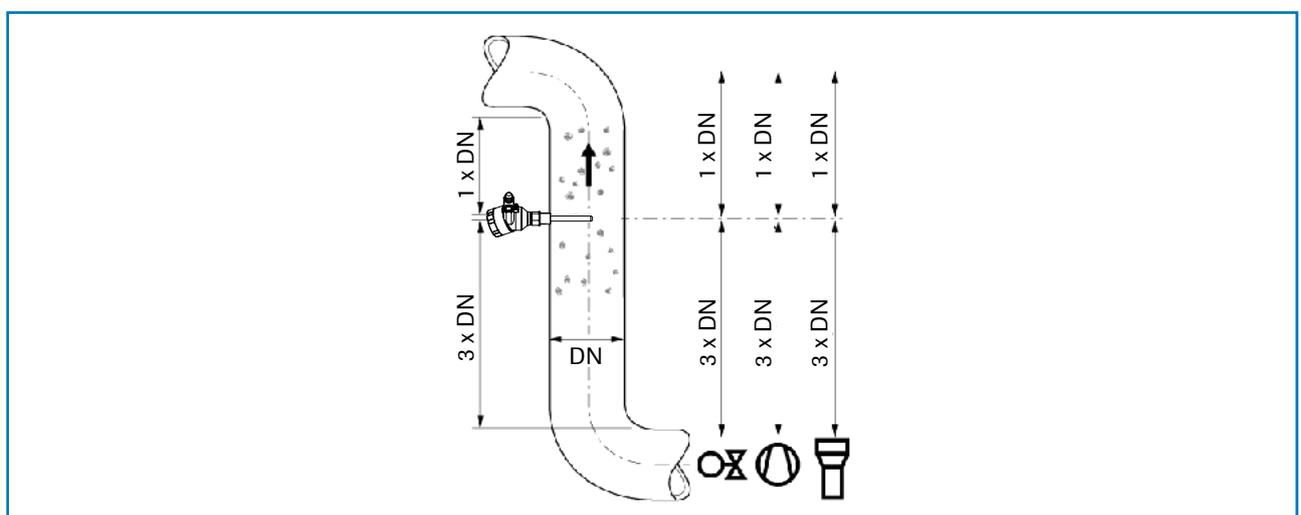

Fig. 6: Recommended distances to bends (DN = duct diameter) and built-ins
- Ensure that the measurement point is an adequate distance from valves, manifolds, blowers and bucket wheel feeders and other measurement ports such as those for pressure and temperature sensors, etc. (Fig. 6).